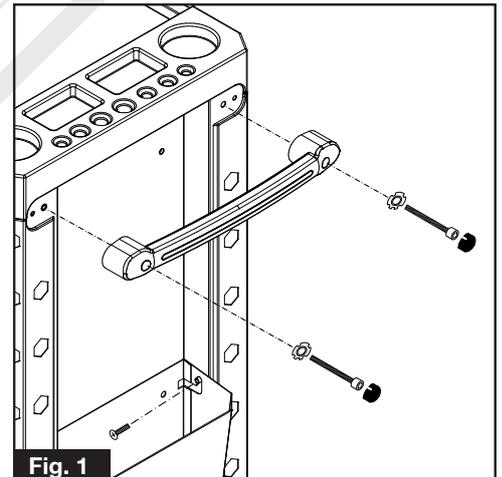

Fig. 1
- Attach with washers & M6x55mm screws and tighten with a 5mm Hex Key. Then press in the plastic caps as shown in Fig. 1.